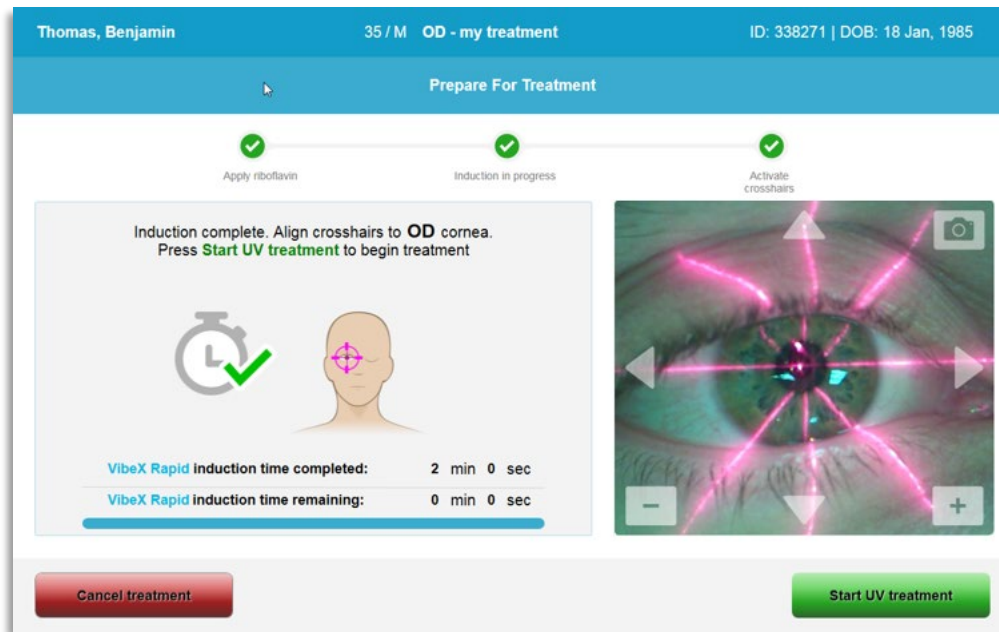

Figure 3-25. Start UV Treatment
- Once the Riboflavin application, Induction, and Alignment of Crosshairs are complete, initiate treatment by pressing the “Start UV treatment” button as shown in Figure 3-25.